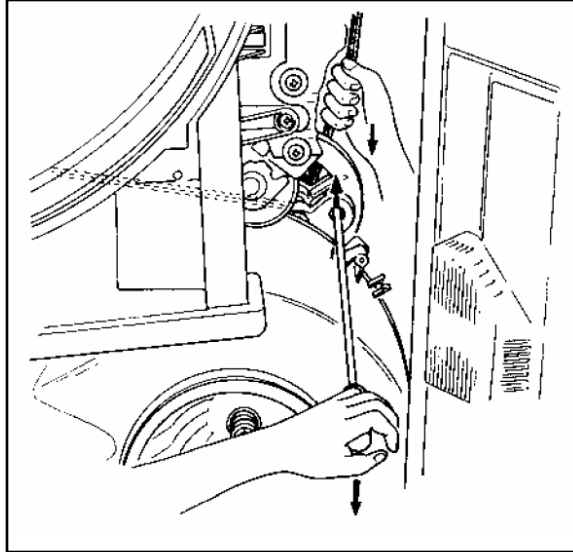

Figure 5-12: Removing the Drive Belt
4. Use the long fixing lever, Part no. C 2627, or a long screwdriver to slacken the drive belt as in Figure 5-12 and remove it from the drive pulley.
4. Units with a Machine No. prefix, 10/.. or 11/.. remove belt from pulley as in Figure 5-12 – Removing the Drive Belt.